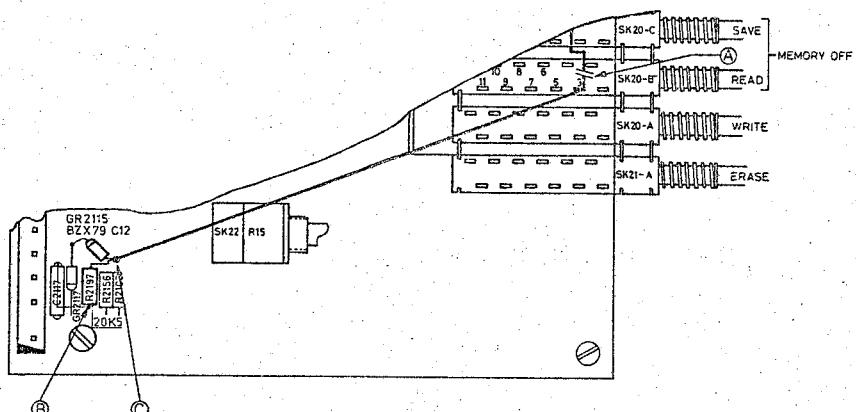

Fig. 1. Part of variable persistence and storage unit.
2. Interrupt the track (on the track-side of the p.w.b.) between point 3 of SK20B (READ) and the anode of GR2117 as indicated in fig. 1 A
4. Solder one side of a resistor of 20k5 (5322 116 55255) on the point, which is connected with C2117 as indicated in fig. 1 B (on the component side of the p.w.b.)
5. Solder between the resistor of 20k5 and the anode of the zenerdiode GR2117 a zenerdiode (GR2115) BZT 79 C12 (4822 130 34197). The cathode of GR2115 to the anode of GR2117 (see fig. 1)
6. Mount an interconnection wire between the anode of GR2115 (fig. 1 C) and point 3 of the switch SK20B (READ)